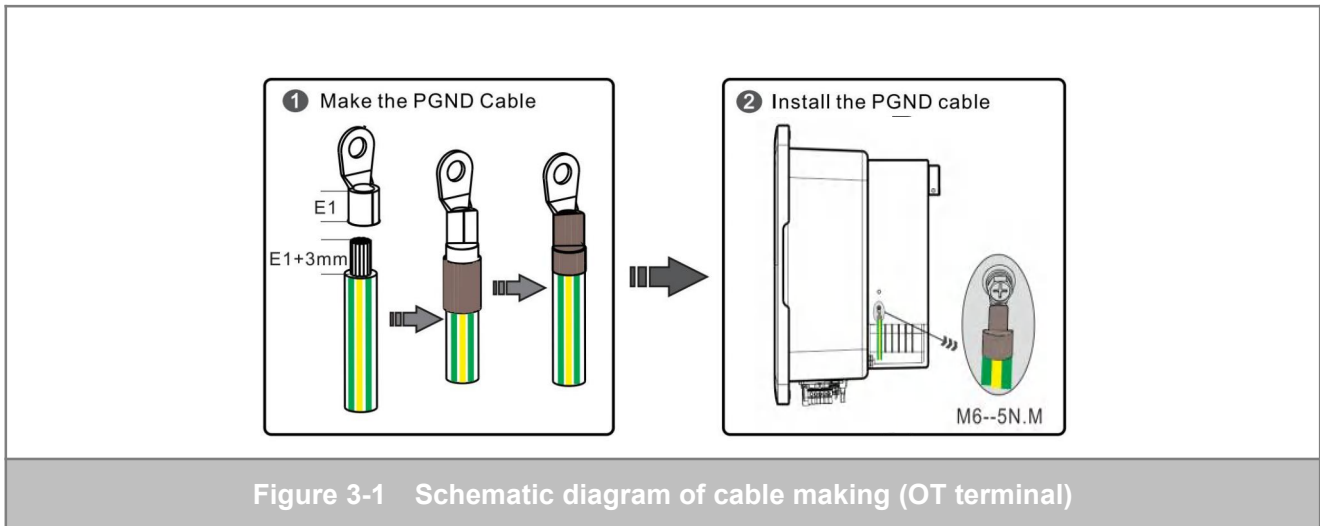

Figure 3-1 Schematic diagram of cable making (OT terminal)
- (1) Strip a section of bare copper core of the ground cable in the corresponding specifications using the wire stripper. Ensure that the length of the bare copper core is 3 mm longer than that of the OT terminal.
- (2) Cover the OT terminal with a heat shrinkable tube in a suitable size. It is recommended that the length of the heat shrinkable tube (withstand voltage $\geq 600\text{V}$) be 1.5-2 times the length of the terminal.
- (3) Crimp the OT terminal to the bare copper core using the crimping pliers.
- (4) Blow the heat shrinkable tube tightly using the heat gun to wrap the terminal and cable tightly. At this time, the cable is completely made (the cable making process is shown in Figure 3-1 ①).
- (5) Fasten the OT terminal of the ground cable to the ground interface with M6 screws, with a fastening torque of 5 N.m (For more information, see Figure 3-1 ②).